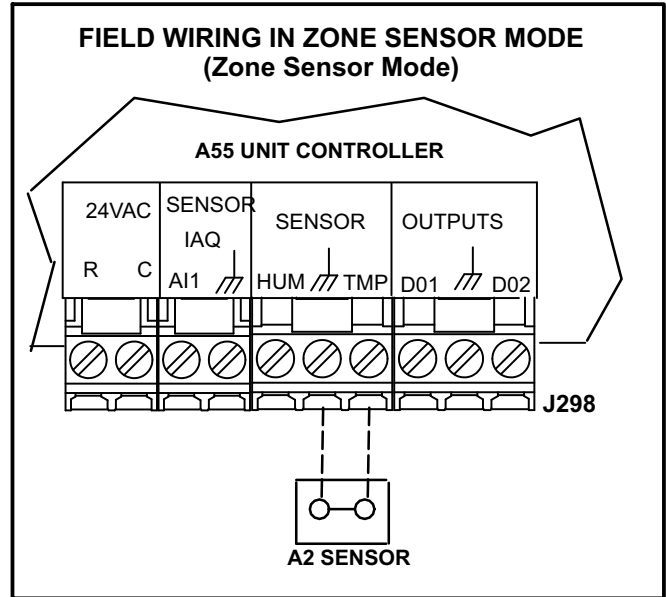

FIGURE 12
based on the Unit Controller internal setpoints and the temperature from the A2 zone sensor. An optional Network Control Panel (NCP) can also be used to provide setpoints. A thermostat or return air sensor can be used as a back-up mode. Make zone sensor wiring connections as shown in figure 12.
- 2- Make wiring connections as shown in figure 13 for Thermostat Mode or figure 12 for Zone Sensor Mode. In addition, connect either a humidity sensor or a dehumidification input. See figure 15 or 16 for humidity sensor wiring or figure 17 for dehumidification input wiring.